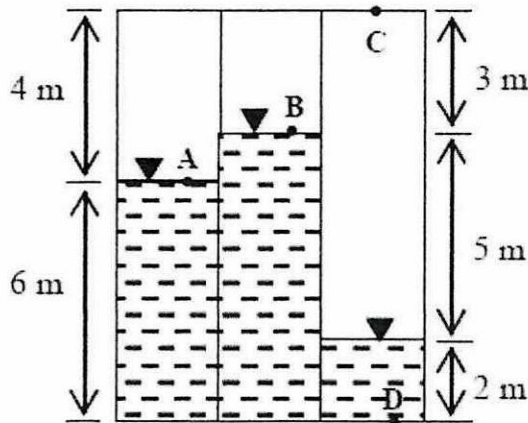

Figure Q2.3
- (c) By referring to **Figure Q2.3** calculate the pressure at point B, C and D in kPa. Given that specific weight of air,  $\gamma_{\text{air}} = 11.8 \text{ N/m}^2$ , density of water =  $1000 \text{ kg/m}^3$  and pressure of A is 36 kPa.